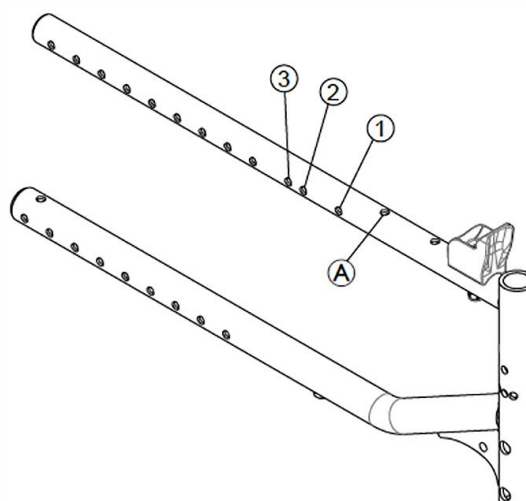

FIGURE 4.10 Action 3 NG Junior frame with the fixation position hole schema for the different cross-brace depth wheelchair.
NOTE: For this procedure, refer to FIGURE 4.10, 4.11, 4.12 and 4.13
4. Choose the most appropriate position of the belt for the user – see figure 4.10 for recommended positions. or figure 4.13 for back mounting.